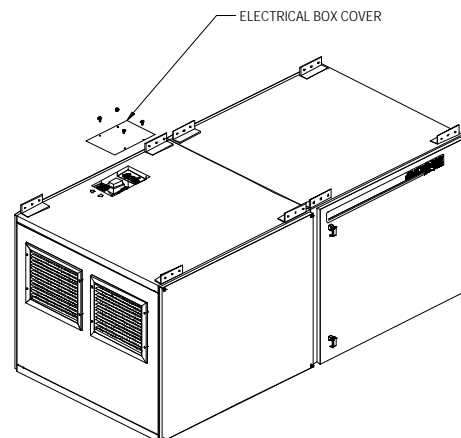

FIGURE 2
1. Remove electrical box cover located on top of MX 6000 Blower Module (Figure 2).